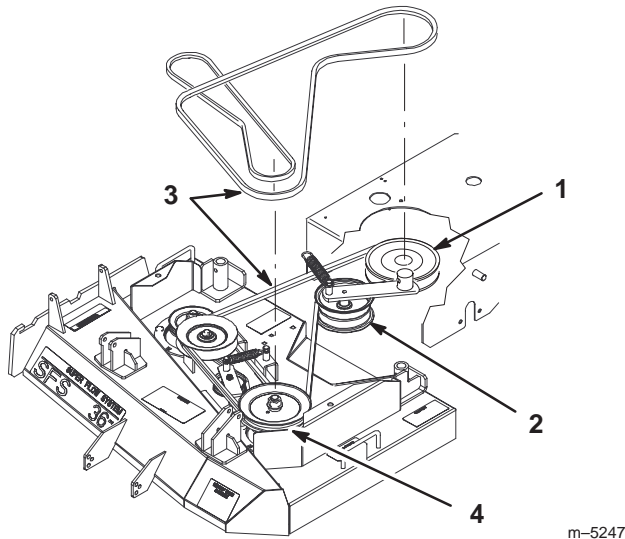

Figure 57
5. Remove the idler spring from idler arm. Remove the drive belt from the PTO engagement pulley and the center spindle pulley (Fig. 57).
6. Remove the worn drive belt (Fig. 57).
7. Install the new drive belt onto the PTO engagement pulley and the top groove of the center spindle pulley (Fig. 57).
8. Install belt onto idler pulley and then install idler spring (Fig. 57).
9. Adjust PTO drive belt guides an 1/8 in. (3mm) from belt (Fig. 57).